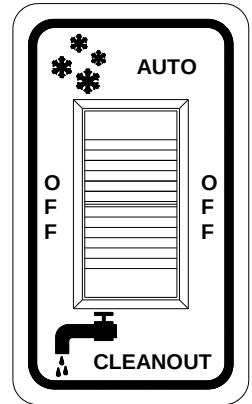
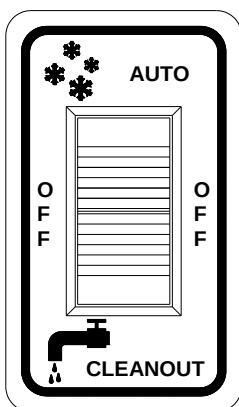
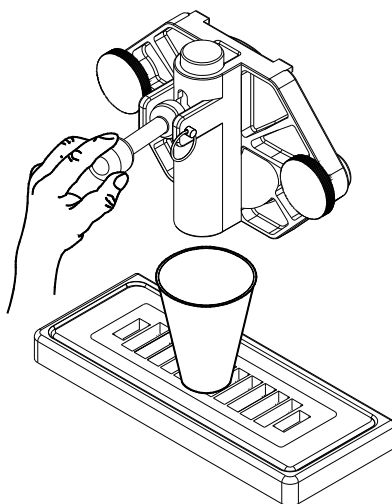

Fig. 7
Fig. 9
Fig. 10
2. Set each control switch (Fig. 7) to the “**CLEANOUT**” position and dispense all product from the freezing cylinder by pulling downward on the spigot handle (Fig. 10) to empty the machine.
1. Fill the machine with cold water and set each control switch (Fig. 9) to the “**CLEANOUT**” position. **DO NOT** use hot water which could damage the machine. Let the machine agitate 1 to 2 minutes, then drain the water by pulling downward on the spigot handle (Fig. 10). Repeat the above procedure as necessary to make certain all product is removed from the machine. After the machine is empty, set each control switch to the “**OFF**” position.